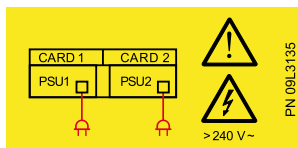

Figure 2. Linecord caution label
2. Verify that the linecord caution label is installed on the 2104 Model DS4 power supply. See Figure 2.